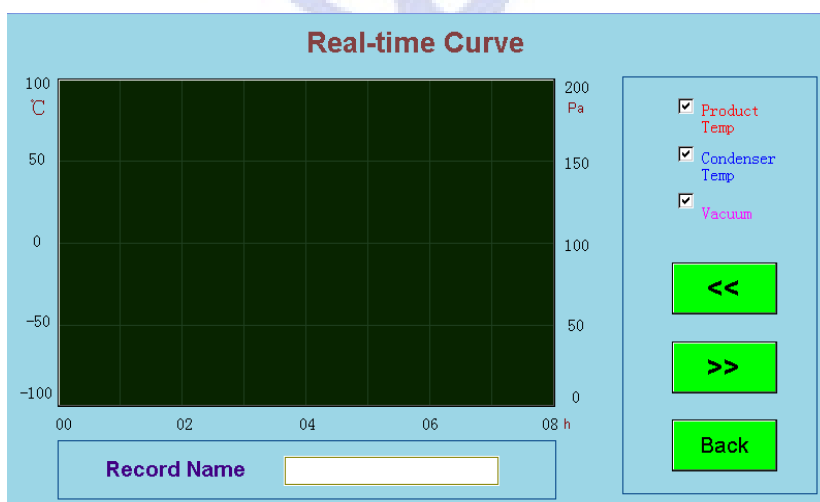

Fig.3 Real Curve Screen
3. On the above screen, you can switch on/off the **Compressor**, **Vacuum Pump** and **Vacuometer** through pressing the relevant button. **Attention:** the compressor is not allowed to start/stop frequently, you need to wait at least 30 seconds to restart the compressor. The vacuum pump can run only when condenser temp is below -30°C (default value). you can also check the product temp, condenser temp, vacuum, and run time of the freeze dryer. Press the **Real Curve** button, you can check the drying process curve information. As shown in Fig.3.